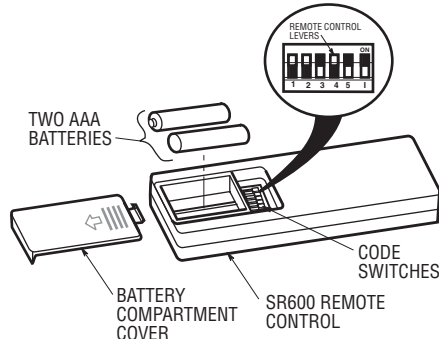
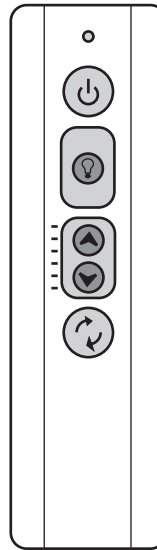

Figure 18
Figure 20
1. Remove the battery cover by pressing firmly below the arrow and sliding the cover off the control (Figure 18).
Your remote control has code switches which must be set in one of 32 possible code combinations (Figure 18). The five levers (numbered 1, 2, 3, 4, and 5) on the switches are factory-set in the ON (up) position. Change the switch settings as follows (Figure 20):